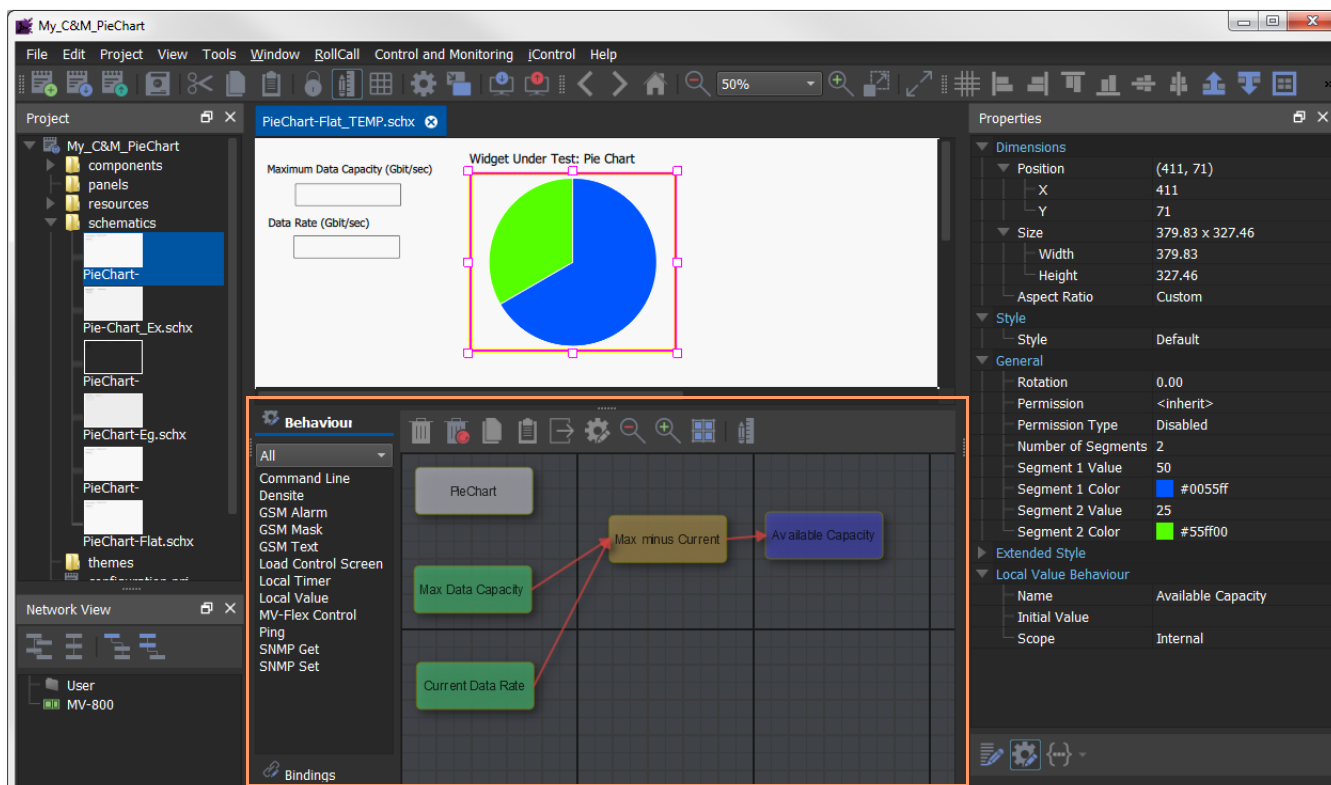

Fig. 3-14: Pie Chart Selected, 'Behaviour and Binding' Graphical Editor Shown
- 1 Select the **Pie Chart** on the test bench screen and click the 'Edit Behaviours' icon to show the 'Behaviour and Binding' graphical editor. See Figure 3-14.